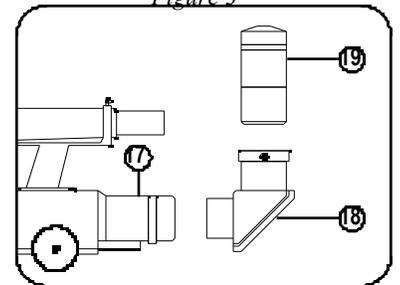

Figure 4
- Locate *Fine Adjustment Cables* (5). Attach *Cables* to the silver posts just under the *Right Ascension Axis* (15) and the *Declination Axis* (3). Secure cables “finger-tight” using set screw located on the end of each *Fine Adjustment Cable*.
- Locate *Counterweight* (6) and *Counterweight Shaft* (7). Slide *Counterweight* onto the *Counterweight Shaft* and tighten thumb screw to secure. Thread *Counterweight Shaft* into the hole on the bottom of the declination column of the mount. Make sure that the shaft is securely locked into the mount.
- Locate *1.25” Format Eyepiece* (19) and *Diagonal Mirror* (18). Carefully place *Eyepiece* into *Diagonal Mirror* as shown (fig 4.). Next, insert *Eyepiece* and *Diagonal Mirror* into *Focusing Draw Tube* (17).